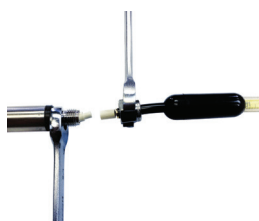

Figure 3
- To avoid damaging the tape on the side of the casing, hang the **H.OIL/Sm.OIL** on the casing and run the tape over the guide on the frame leg (see Figure 3). If you cannot hang the unit, hold the **H.OIL/Sm.OIL** away from the side of the casing and guide the tape down the center of the well.
- Swivel the probe holder on the frame to allow the tape free movement down the well (see Figure 3).
- Note the inverted triangle on the probe holder serves as a datum point indicating “top of casing” (see Figure 3).